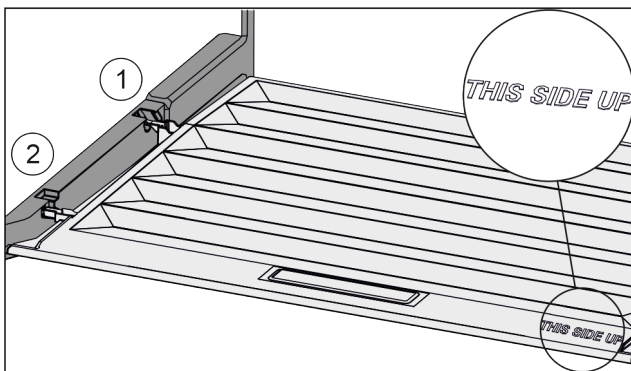

Fig. 89
- ▶ Insert the lip of the cover over the opening of the rear bracket Fig. 89 (1) and click into place Fig. 89 (2).